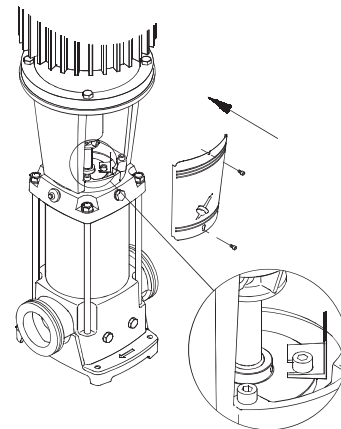

Fig. 21 Adjusting fork storage CR, CRN 32, 45, 64, 90, 120, and 150
5. Tighten coupling screws to 62 ft-lbs (75 and 100 hp motors to 74 ft-lbs). Remove the adjusting fork from under the cartridge seal collar and replace it to the storage location. See fig. 21.